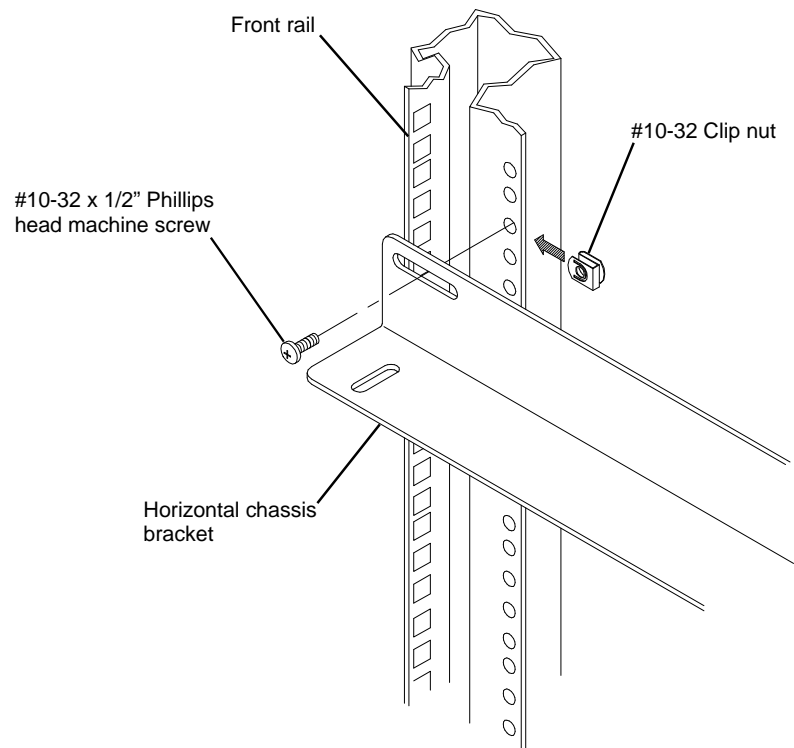

Figure 1
2. Install the Clip Nuts in the desired location on the rails. See **Figure 1**.
3. Attach the **Horizontal Chassis Bracket** to the rails using the #10-32 screws. See **Figure 1**.
NOTE: For additional horizontal adjustments, attach the Horizontal Bracket as shown in **Figure 1**. For vertical adjustments attach the Horizontal Bracket using the hole on the other face.